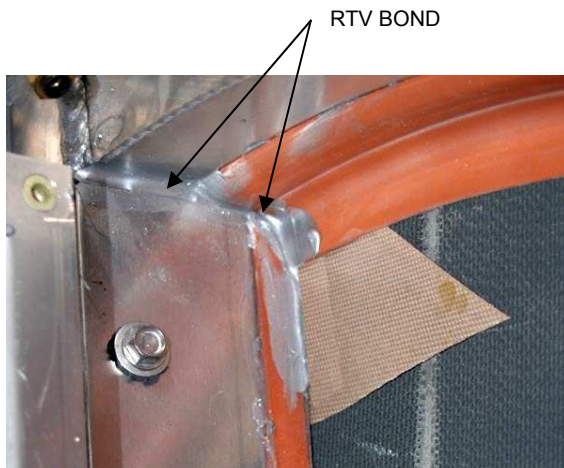

Figure 12 - Face/Peripheral Seal Union
9. After all the face seal screws are removed, locate the point where the vertical and horizontal face seals meet the peripheral seal (see Figure 12). This union has been joined together with RTV silicone sealant. Using a razor utility knife, CAREFULLY break the RTV bond only. Use caution to avoid cutting through the peripheral seal or the rotor surface.
8. Reseal the union between the face seals and the peripheral seal with RTV silicone. Also, reseal the seam where the horizontal and vertical face seals meet. DO NOT GET RTV ON THE ROTOR. (Slip a piece of wax paper between the rotor and the area to be sealed (shown in Figure 12) to prevent RTV from sticking to the rotor surface.)